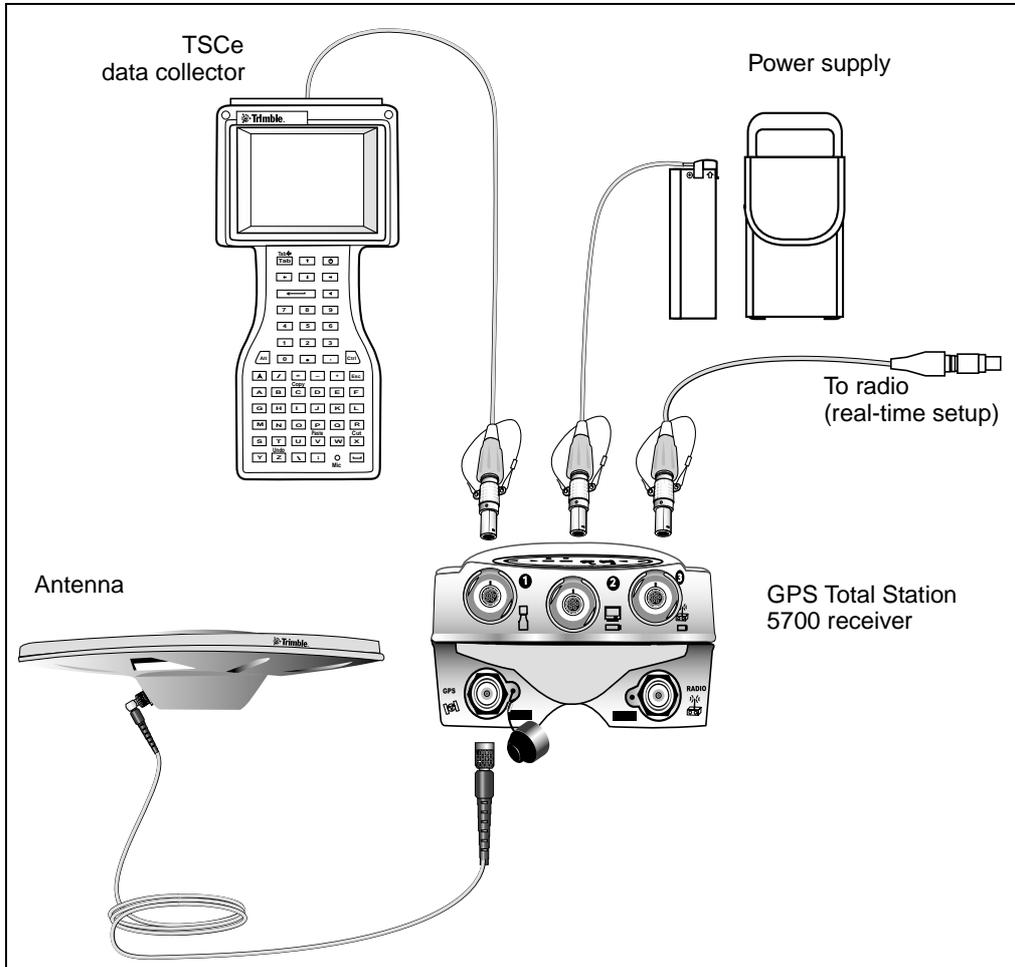
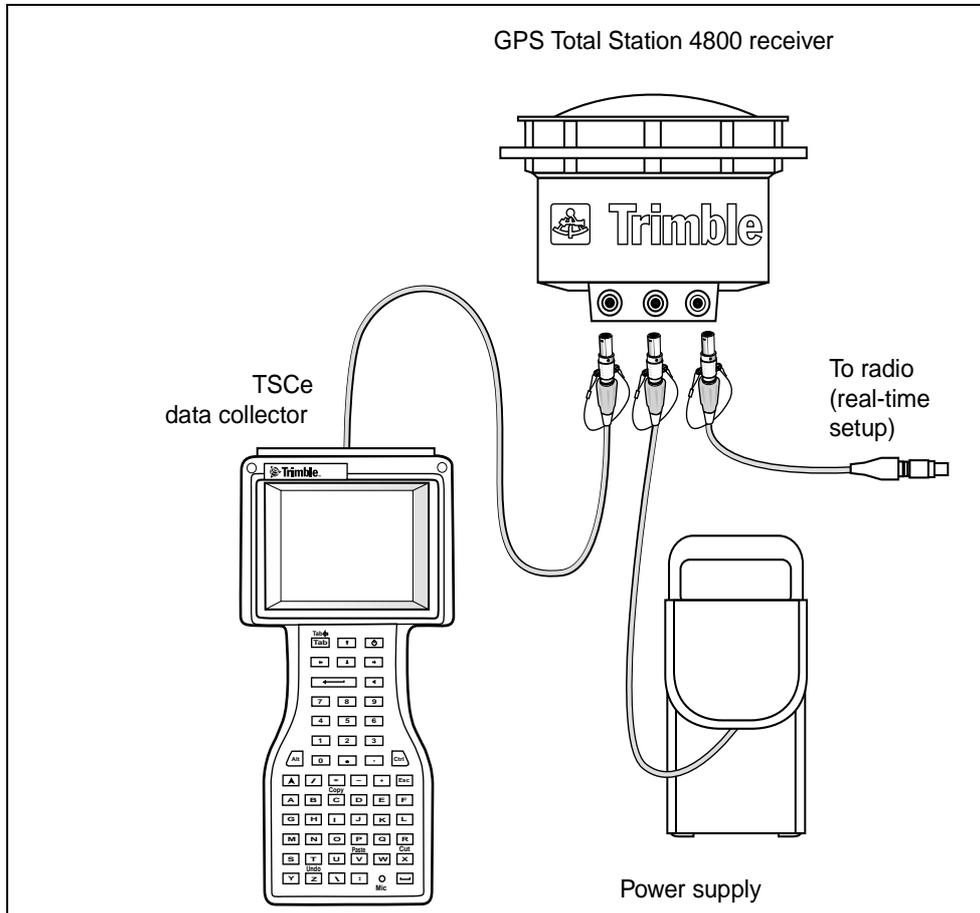
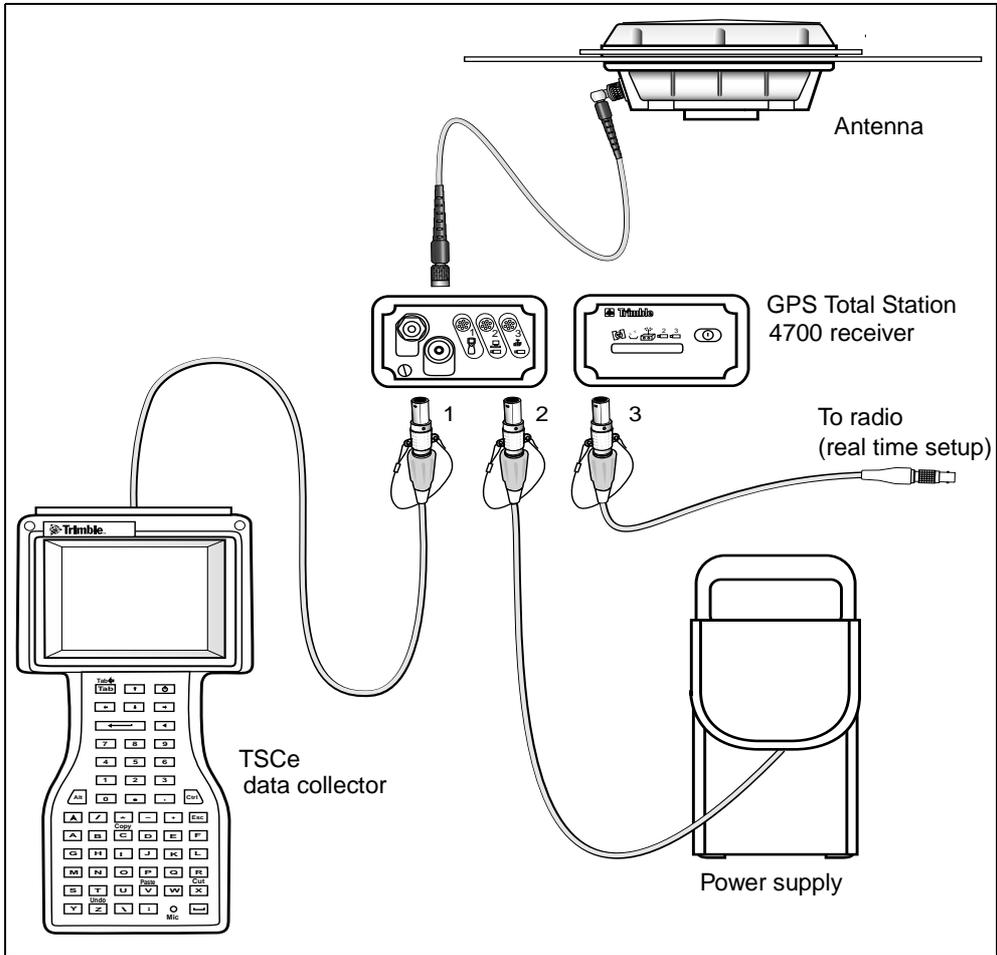

Figure 12.2 GPS Total Station 5700 system
Figure 12.3 GPS Total Station 4800 system (external radio)
Figure 12.4 GPS Total Station 4700 receiver (external radio)
Figure 12.2 shows how to set up the base receiver for a real-time survey using a GPS Total Station 5700 receiver.
To assemble the base receiver hardware for a real-time survey using a GPS Total Station 4800 receiver, see Figure 12.3. Then do the following:
Figure 12.3 shows how to set up the base receiver for a real-time survey using a GPS Total Station 4800 receiver.
To set up a base receiver for a real-time survey using a GPS Total Station 4700 receiver, see Figure 12.4. Then do the following:
Figure 12.4 shows how to set up the base receiver for a real-time survey using a GPS Total Station 4700 receiver.
1. Connect the TSCe data collector, receiver, power, and radio. For more information, see Figure 12.2 on page 229, Figure 12-3 on page 231, or Figure 12-4 on page 233 (depending on the equipment).
To set up a base receiver for a postprocessed survey using a Trimble GPS Total Station 4700 receiver, see Figure 12.4. Then do the following: